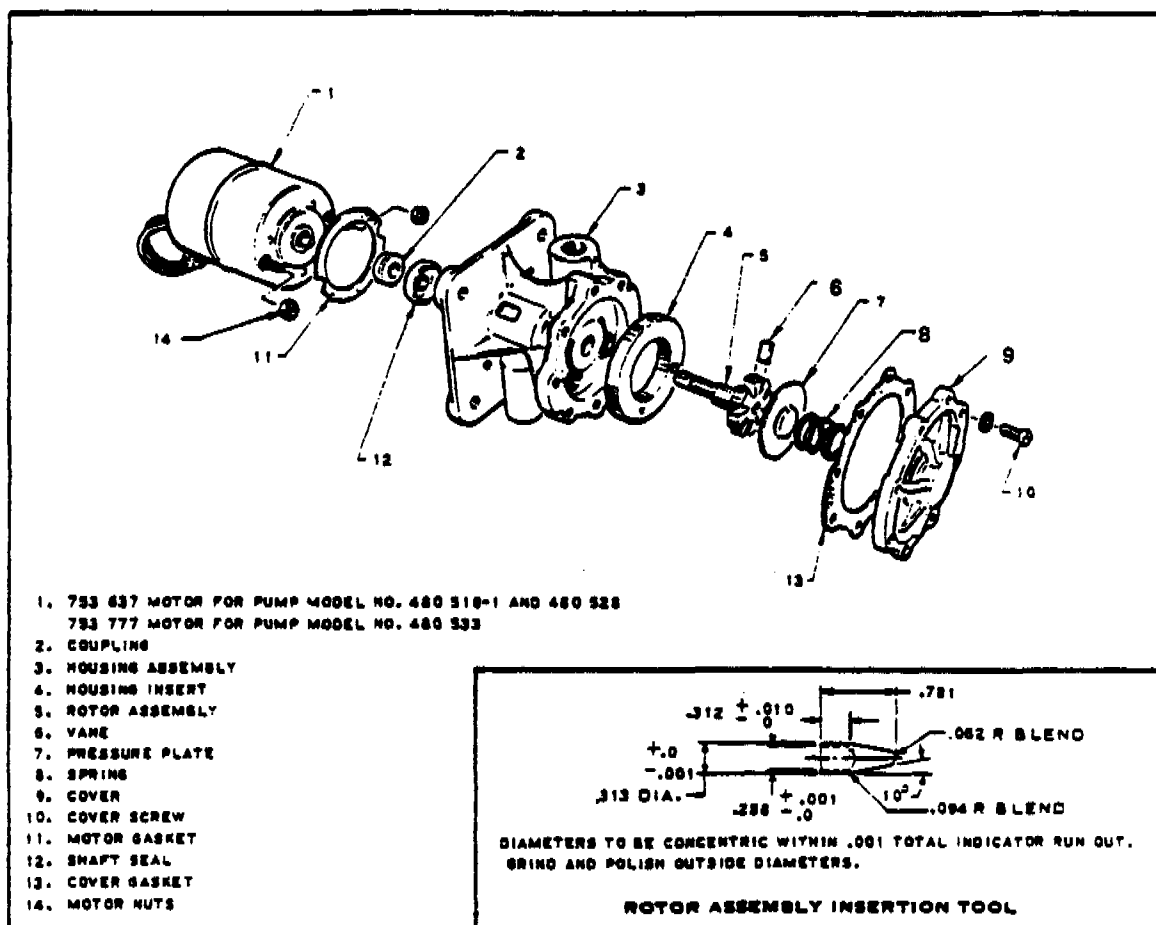

FIGURE 8-17. EXPLODED VIEW BENDIX ROTARY FUEL PUMP
b. Field servicing consists of replacing the following parts as required: Cover Gasket (13), Shaft Seal (12), Coupling (2), Motor Gasket (11) and Motor (1). Refer to Parts Catalog for replacement part numbers.
2. Cover Gasket Replacement. (Refer to Figure 8-17.)
a. Mark the position of the cover with a scribe mark. Remove the eight cover screws (10) and the cover (9). The spring (8) and pressure plate (7) are now loose and may be set aside. There is no need to remove any vanes (6), use care to assure that none are lost. Remove the cover gasket (13) and all traces of this gasket from sealing surfaces on the cover and housing assembly (3).
b. Reassemble the pump using a new Cover Gasket (13). The gasket should drop over the housing insert (4). Note that the spring (8) and pressure plate (7) must be located in their respective counterbores in the cover (9) as the cover is pulled down by the screws (10). Be sure the cover is installed in its original position. (With the cover installed correctly, the cast word "Bendix" on the cover will be on a diagonal with the "B" nearest the outlet). Torque the cover screws (10) in opposite pairs to between 25 and 35 in. lbs.
a. Remove the two motor nuts (14), the motor (1), the motor gasket (11) and the coupling (2). If there is a felt cylinder in the coupling end of the housing assembly, remove this felt cylinder and discard it.
- b. Inspect the coupling (2). Use a new coupling if the old one appears deteriorated.
- c. Reassemble the pump with a new motor gasket (11) and a new motor if required. Tighten the motor nuts (14) just snug. Be sure the coupling (2) engages both the pump shaft and the motor shaft.
- a. Remove motor and associated parts as described in Section 3. Remove cover and associated parts as described in paragraph 2. Remove the eight vanes (6) with care to avoid damaging them.
- b. If a retaining ring is found on the pump shaft, remove this with suitable pliers and discard the ring. Push the rotor assembly out of the pump. Remove the housing insert (4), noting its position. Using a .40 to .41 diameter, flat faced brass drift and arbor press, press the shaft seal (12) out of the housing (3). Use care to avoid damaging the bearing surfaces. Parts may now be washed in a mild solvent.
- c. Apply a thin uniform coating of "John Crane Plastic Lead Seal No. 2" to the outside diameter of a new shaft seal (12). (This seal may be a different type than the one which was in the pump.) With the cover end of the housing assembly on a flat surface, use a 15/16 diameter flat faced brass drift in an arbor press to press the shaft seal (12) home in the housing assembly (3).
- d. Place the insertion tool (Figure 8-17) over the end of the rotor assembly (5). Use motor oil to lubricate the end of the insertion tool and the shaft seal. Push and twist the rotor assembly into the housing assembly. Install the housing insert (4). Install the vanes (6) radius end away from center. Install the cover and associated parts per paragraph 2. Remove insertion tool, then install the motor and associated parts per Section 3. Run in and test as described in paragraph 5.